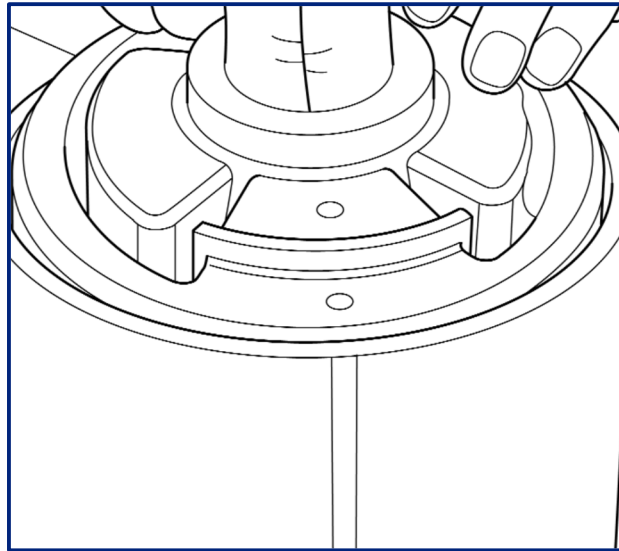

Fig 26
2. Insert the replacement pivot bush into the funnel "D" and align the dots on the pivot bush with the marked line on the funnel (Fig 26).